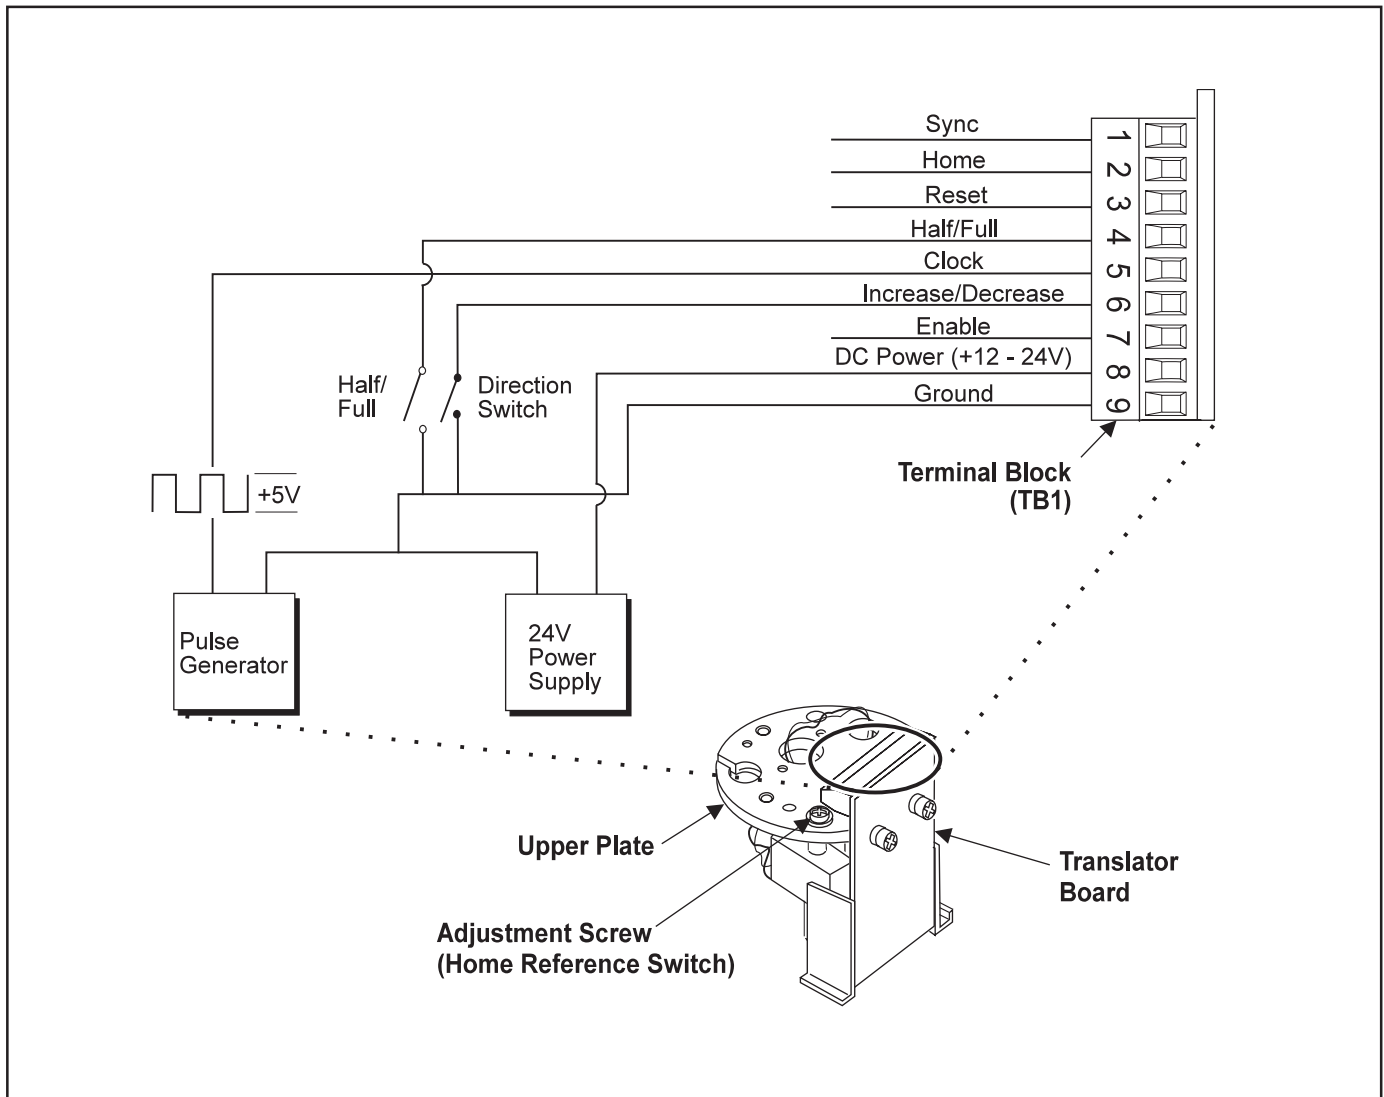

Figure 1. Manual Control Circuit.
1. To change the Home Output Value turn the **Adjustment Screw** clockwise to decrease pressure or counterclockwise to increase pressure till the output signal occurs. For more information, see Figure 1. "Manual Control Circuit" below.
1. Use a **12V** or a **24V Power Supply** together with a **Pulse Generator** to generate step pulses. For more information, see Figure 1. "Manual Control Circuit" below.
4. Select **Full** or **Half Step** operation and set the pulse generator frequency as indicated under the **Max. Frequency (HZ)** column. The **Total Pulses 0-100% Output** column shows the approximate number of pulses required to drive the Regulator over the full range of pressure.